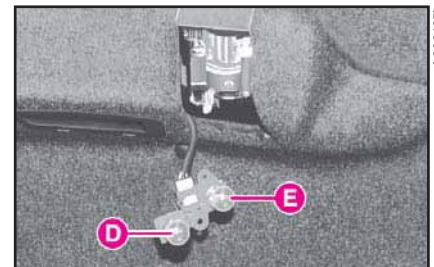

fig. 28
3) Remove the clipped in glass bulbs (fig. 28).